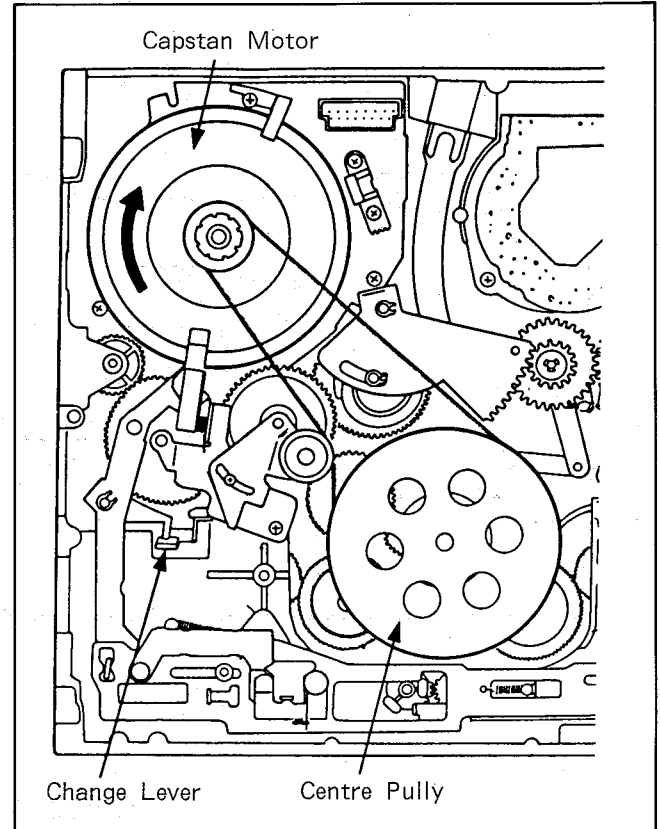

Fig.D10
Remove the 3 screws(N). Slide the cassette holder until appearing 2 screws(O) by turning (clockwise) the Capstan Rotor Unit (located in the bottom side as shown in Fig.D10) and remove the 2 screws(O). Remove the wire cable from connector P1503 mounted on Take-up Photo Tr. C.B.A. , then carefully pull out the Cassette Compartment.